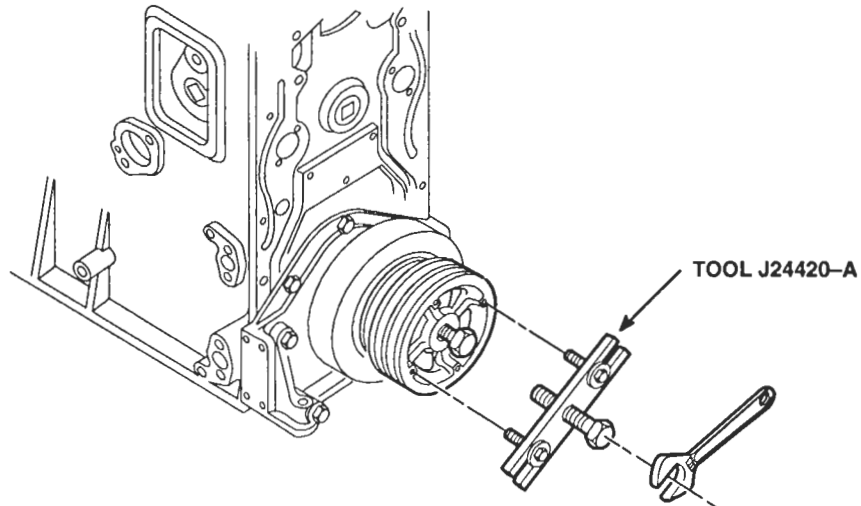

Figure 2. Removing Pulley with Tapped Holes from Crankshaft
4. If tapped holes are provided in the pulley hub, install the pulley bolt in the end of the crankshaft and use puller J 24420-A (Figure 2.)